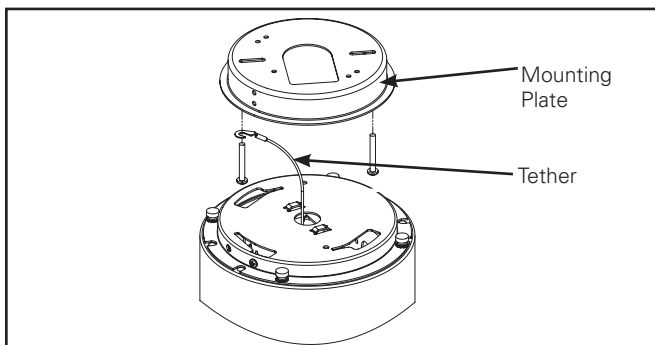

Figure 3.
4. Attach tether under one Junction Box mounting screw (Figure 3).